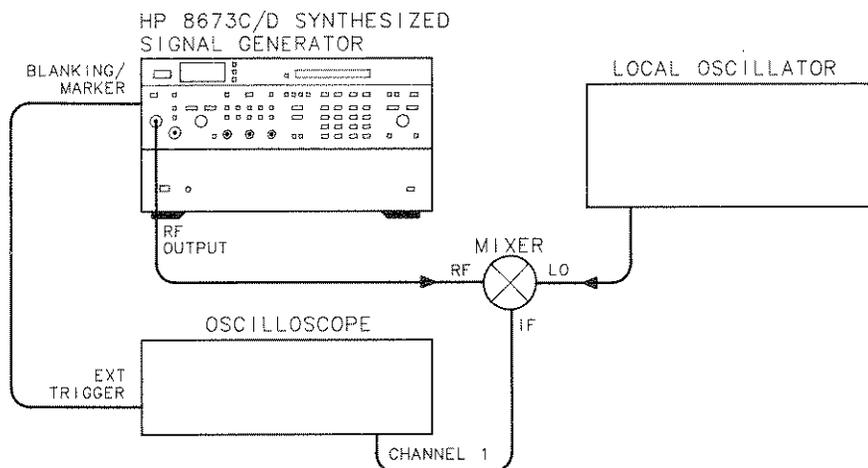

Figure 4-12. Frequency Switching Time Test Setup
1. Set up the equipment as shown in Figure 4-12. The external trigger input of the oscilloscope is connected to the Signal Generator's rear panel Blanking/Marker output. This signal will trigger the oscilloscope at the start of a frequency change when any sweep mode is selected.